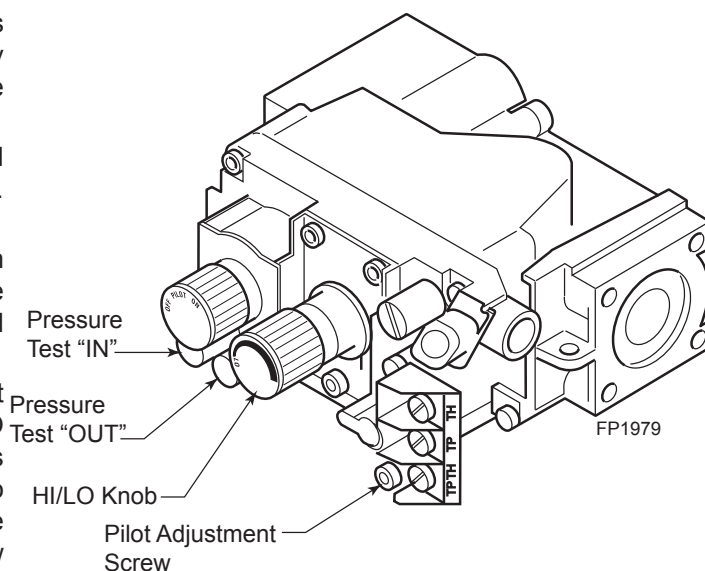

**Figure 29 -**
5. To check gas pressures at valve, turn captured screw counter clockwise 2 or 3 turns and then place tubing to pressure gauge over test point. Turn unit to high. *Figure 29.* After taking pressure reading, be sure and turn captured screw clockwise firmly to reseal. Do not over torque. Check test points for gas leaks.